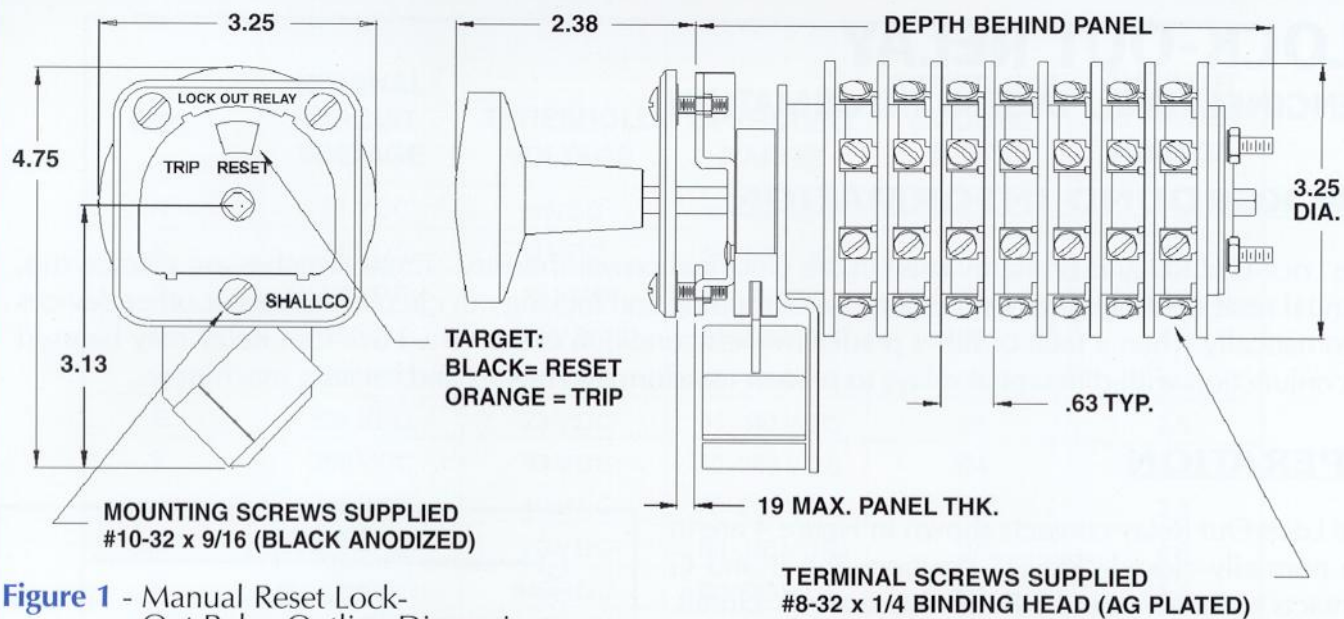

Figure 1 - Manual Reset Lock-Out Relay Outline Dimensions
4. Units are supplied with Engraved Name Plate as shown in Figure 1 above unless otherwise specified.